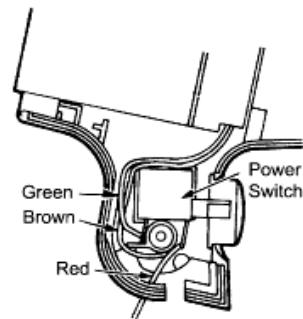

Fig.1
- (1) Assemble the heater block and motor block, and attach them into the housing B.
- (2) Attach the main switch push button, and insert the brown and green lead wires into the housing B as shown in Fig.1.